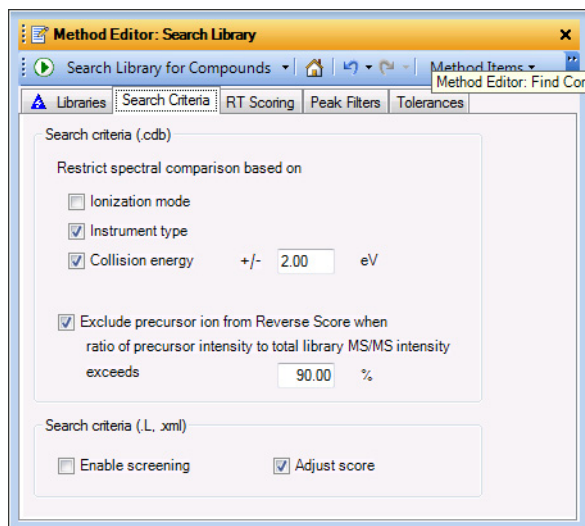

Figure 20 Search Criteria tab.
- d In the **Search Criteria** tab, mark the check boxes for **Collision energy** and **Exclude precursor ion from Reverse Score**. See Figure 20.